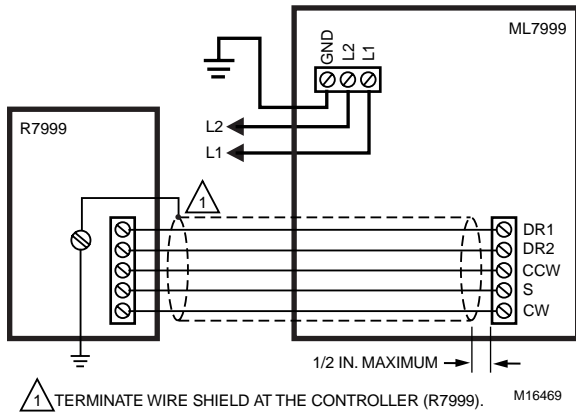

Fig. 5. Typical ML7999 wiring.
3. Wire the low-voltage circuit to the R7999. See Fig. 5 for typical wiring connections.
5. Wire the line-voltage circuit. See Fig. 5 for typical wiring connections.